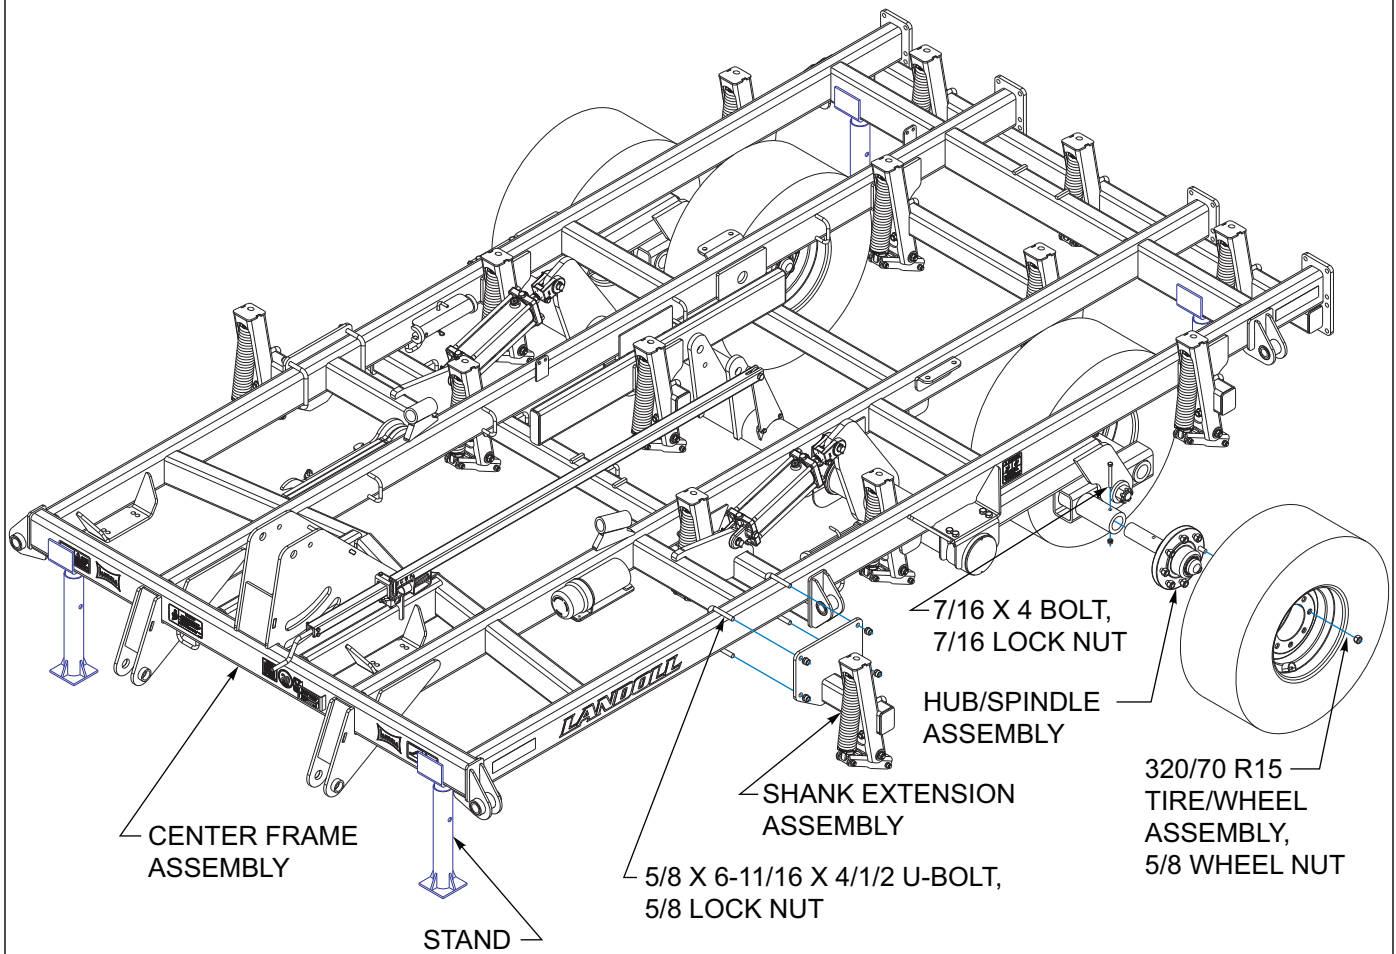
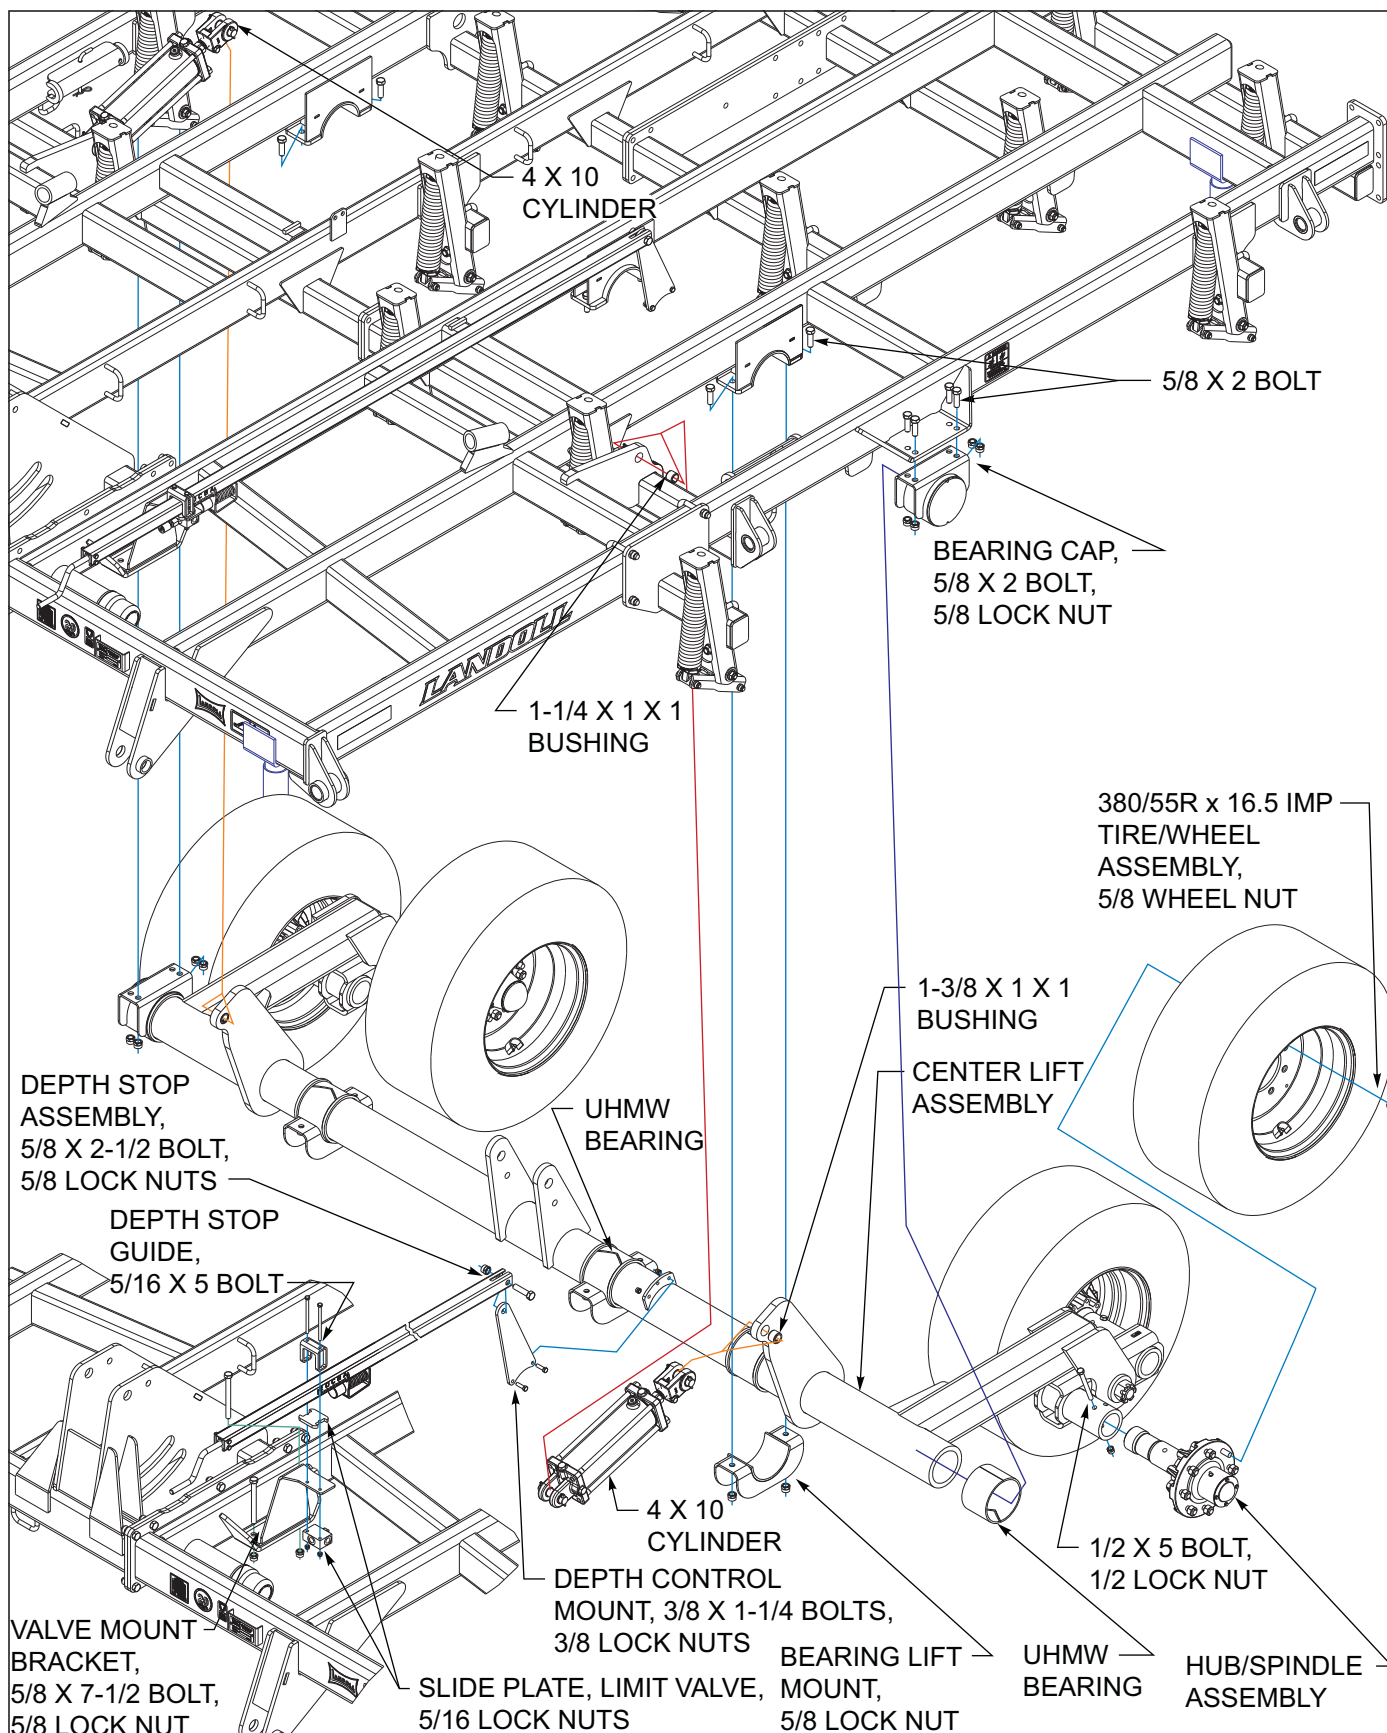
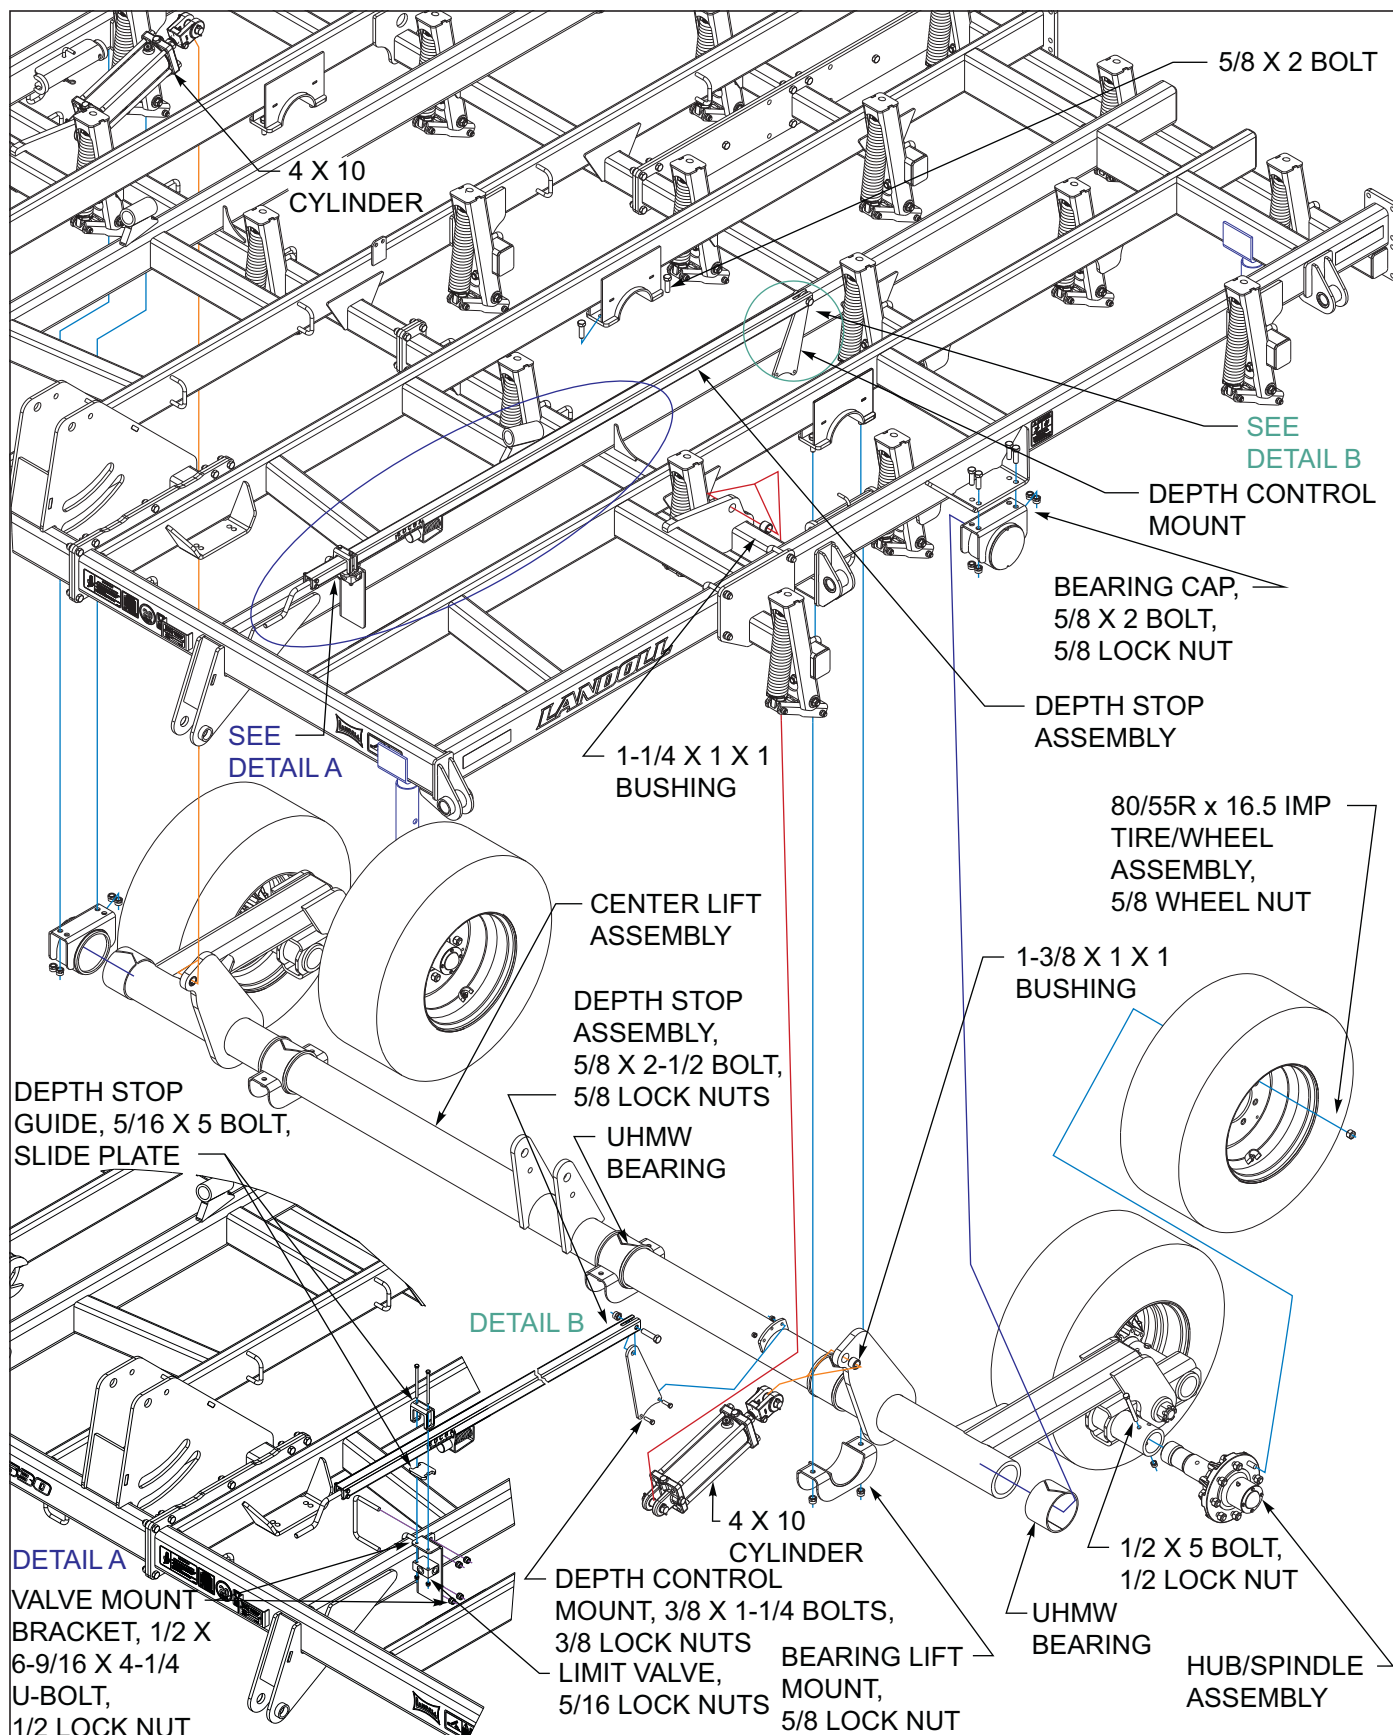

Figure 3-1: Center Frame Assembly 8530-19'-25'
Figure 3-4: Center Frame Lift Assembly 8530-27'-30'
Figure 3-5: Center Frame Lift Assembly 8530-33'-35'
1. The assembly area should be a large level area of sufficient size to accommodate the finishroll when fully assembled. Models 8530-19'-25' Place the center frame assembly on stands minimum 36" high *See Figure 3-1.*
13. Models 8530-27'-30' *See Figure 3-4* install the valve mount bracket with 5/8 x 7-1/2 bolts and 5/8 lock nuts. Bolts go through mount plate on center frame through bearing half blocks.
14. Models 8530-30'-35' *See Figure 3-5* install the valve mount bracket to center frame with 1/2 x 6-9/16 x 4-1/4 u-bolt and 1/2 lock nuts. *See Figure 2-12* for placement.
16. Assemble the front of the depth control tube to the front depth control mount on the frame. Use depth stop guide, slide pad, limit valve secure with 5/16 x 5 bolts and 5/16 lock nuts Models 8530-33'-35' *See Figure 3-4* or Models 8530-27'-30' *See Figure 3-5.*
17. Install any hub/spindle assemblies into the main lift assembly that may have been removed for shipping. Use 7/16 x 4 bolts and lock nuts for 2-1/4 spindles and 1/2 x 5 bolts and lock nuts for 3 spindles. Models 8530-19'-22'-25' *See Figure 3-1* or Models 8530-27'-30' *See Figure 3-4* or Models 8530-33'-35' *See Figure 3-5.*
18. Install center frame tire assemblies, Models 8530-19'-25', 320/70 R15 tire/wheel assembly and Models 8530-27'-35', 380/55R x 16.5 imp tire/wheel assembly to hub/spindle assemblies with 5/8 wheel nuts. Models 8530-19'-22'-25', *See Figure 3-1* or Models 8530-27'-30', *See Figure 3-4* or Models 8530-27'-30' *See Figure 3-5.*